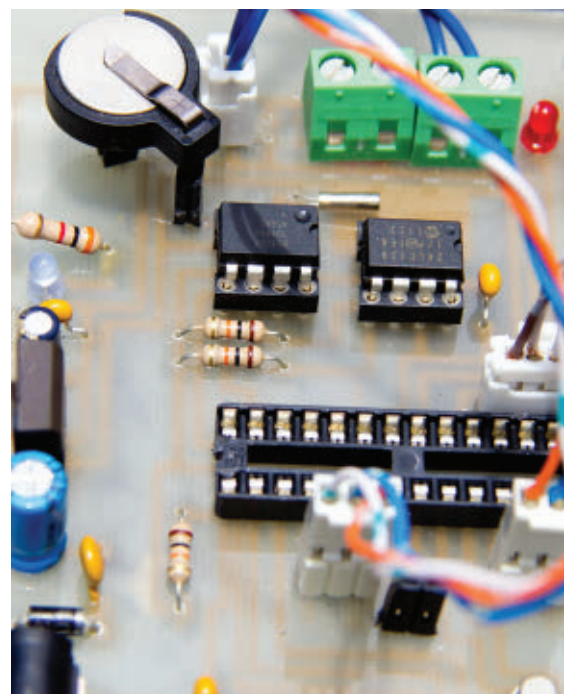
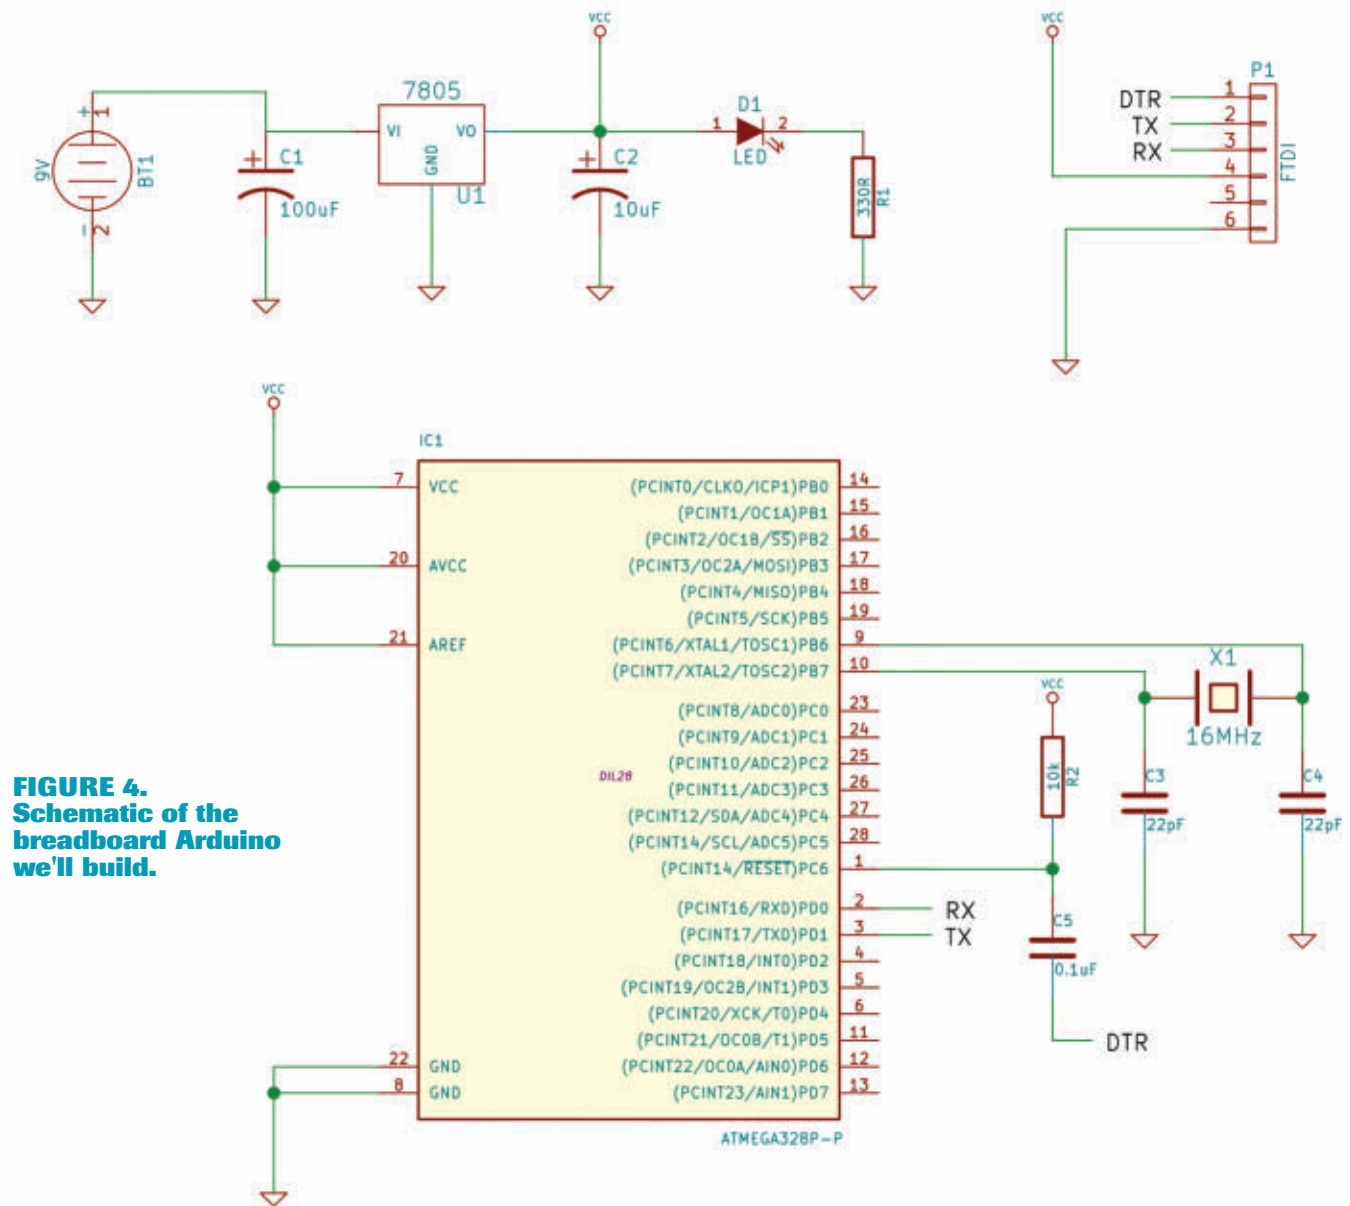

FIGURE 3. Integrating a microcontroller into a PCB with other components.
FIGURE 4. Schematic of the breadboard Arduino we'll build.
■ **FIGURE 3. Mounting hole dimensions.**
■ **FIGURE 4. Controller board installed in traffic light assembly.**
The TurboCad 18 dimensions for the mounting holes are shown in **Figure 3**, **Figure 4**, and **Figure 5**.
Figure 3 had a shift register, an EEPROM chip, a real
Let's get going on the build! Check out the schematic in **Figure 4**.